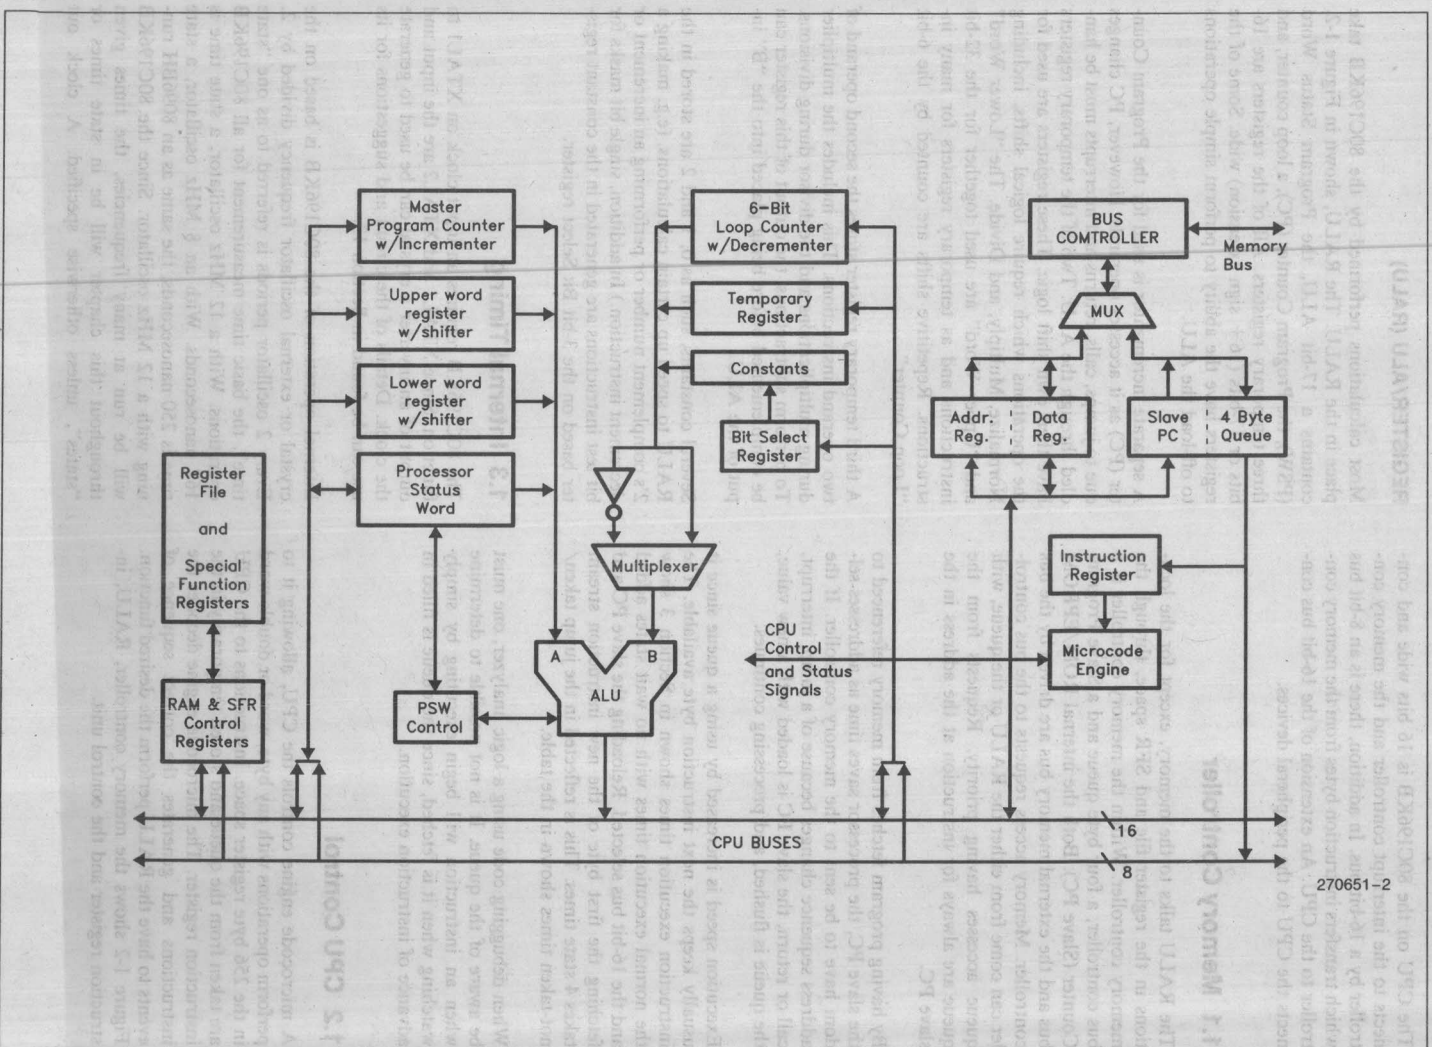

Figure 1-2. RALU and Memory Controller Block Diagram
A microcode engine controls the CPU, allowing it to perform operations with any byte, word or double word in the 256 byte register space. Instructions to the CPU are taken from the queue and stored temporarily in the instruction register. The microcode engine decodes the instructions and generates the correct sequence of events to have the RALU perform the desired function. Figure 1-2 shows the memory controller, RALU, instruction register and the control unit.
Most calculations performed by the 80C196KB take place in the RALU. The RALU, shown in Figure 1-2, contains a 17-bit ALU, the Program Status Word (PSW), the Program Counter (PC), a loop counter, and three temporary registers. All of the registers are 16-bits or 17-bits (16+ sign extension) wide. Some of the registers have the ability to perform simple operations to off-load the ALU.